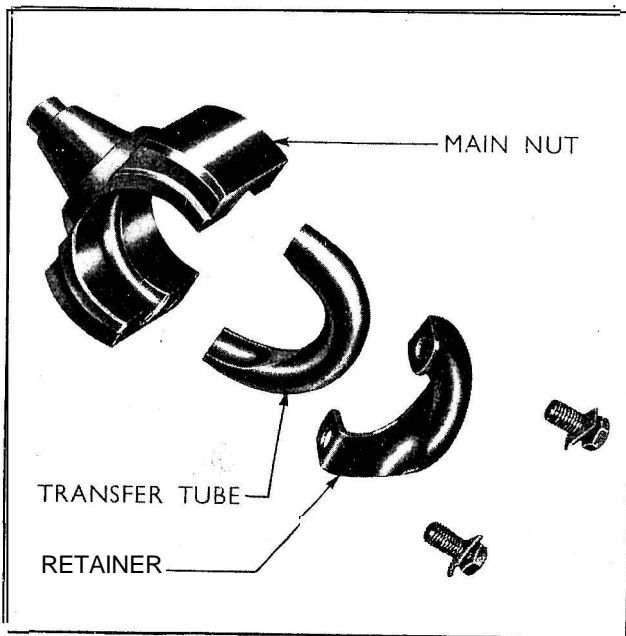

Fig. 216
- 6 Remove the main nut from the shaft by unscrewing the main nut fully when the fourteen ball bearings may be extracted from the groove and the transfer tube. The main nut may be further dismantled after the two transfer tube retaining screws have been removed (see Fig. 216).
- 8 Locate the rocker shaft oil seal in the groove at the outer end of the housing (see Fig. 216) and install the rocker shaft, so that the jaw engages the conical shoulder of the main nut. Fit the main nut collar on the shoulder, which protrudes through the rocker shaft jaw.